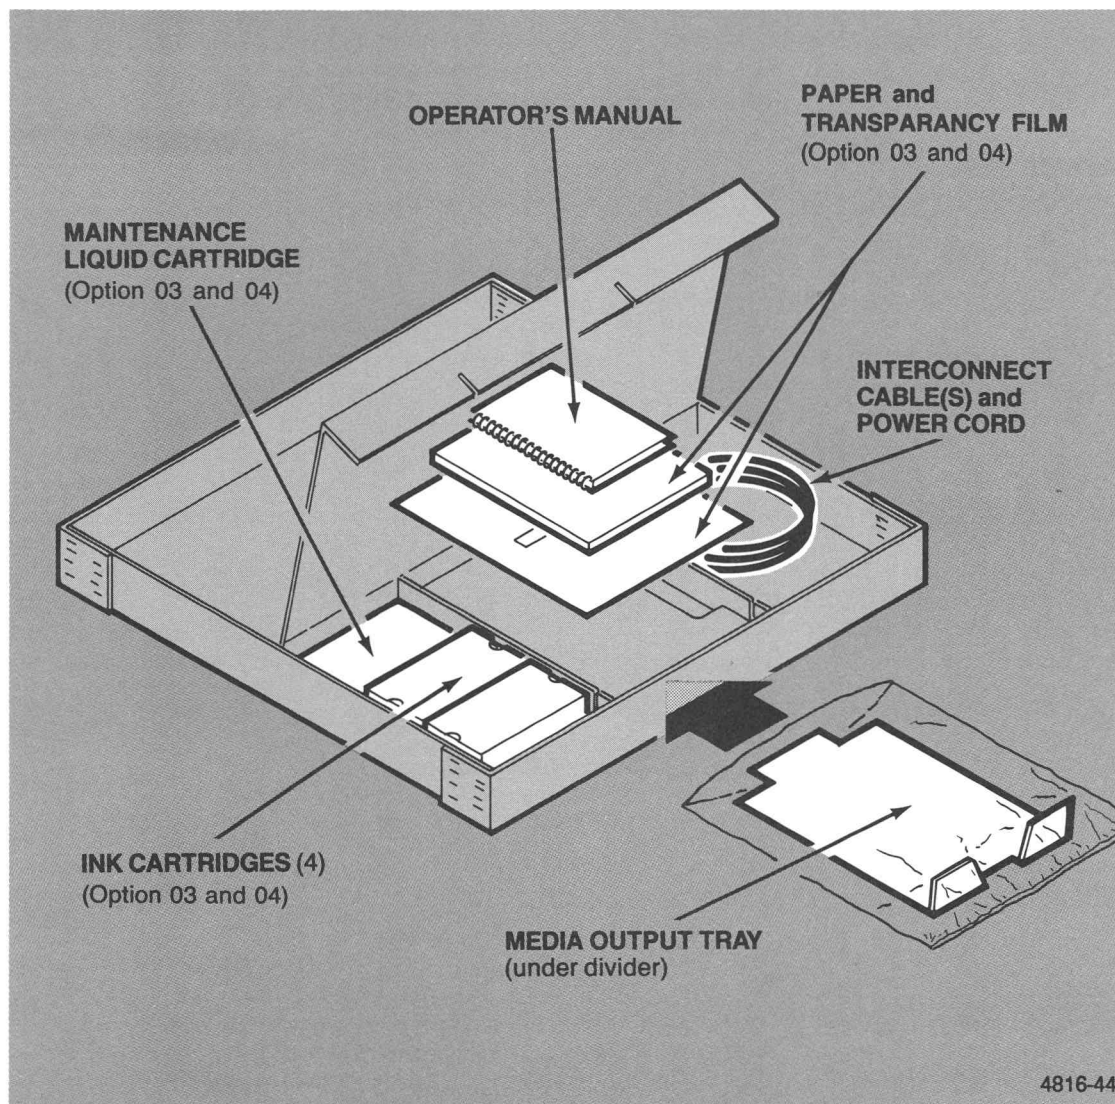

Figure D-3. Exploded View of Accessory Package.
6. Figure D-3 shows an exploded view of the accessory package. Upon opening, this package includes the following: